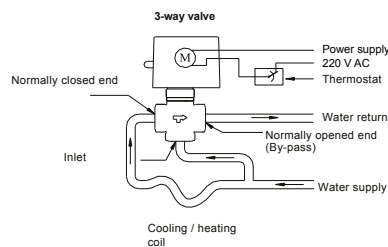

fig. 2
**3-way diverting valves:** inlet is the normally closed end and the normaly open end is the by-pass port (the inlet part is unmarket, fig. 2 and 3)